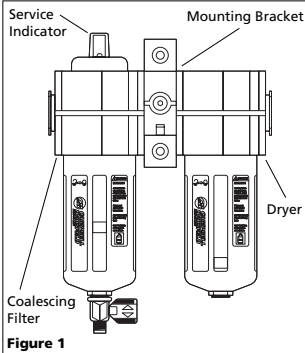

Figure 1
- Coalescing Filter Replacement - The service indicator on the coalescing filter (shown in Figure 1) signals when the filter element needs to be replaced. When the indicator turns red the filter element must be replaced. Use replacement filter element PA2087.